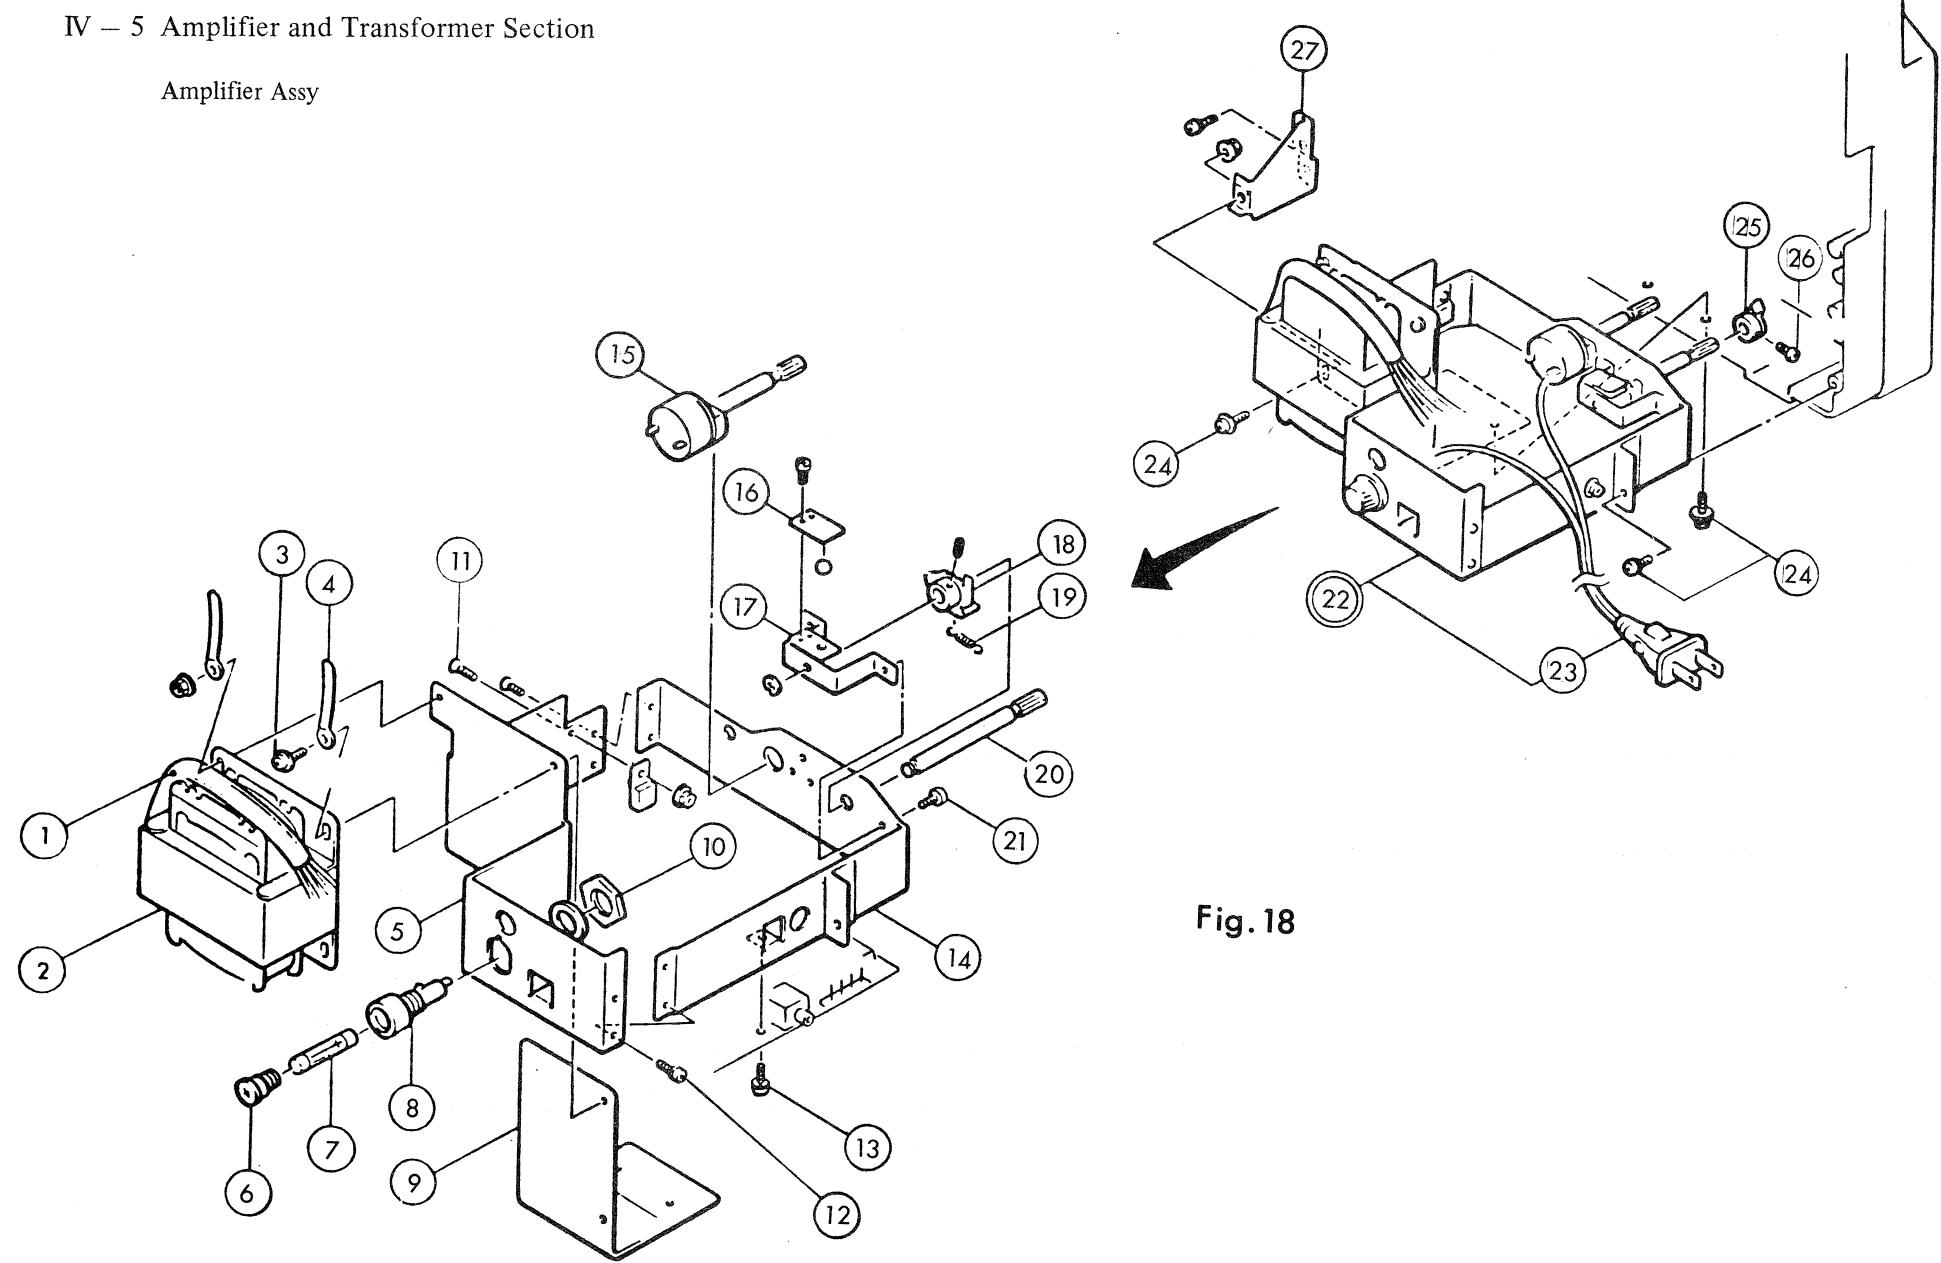

Fig. 18
1. Unscrew ④ to remove ② from the base main body; disconnect the connectors as well.
2. Unscrew ③ to remove ② from ⑤, taking due care since ⑨ also comes off simultaneously.
3. Unscrew ⑬ to remove the PC board.
4. Unscrew ⑪ and ⑫ to separate ⑤ from ⑯. Refer to Fig. 18 for disassembly of ⑤.
5. Unscrew ⑯ to pull out ⑮.
6. Unscrew ⑭ to remove the assy parts of ⑯.
7. Refer to Fig. 18 for further disassembly.